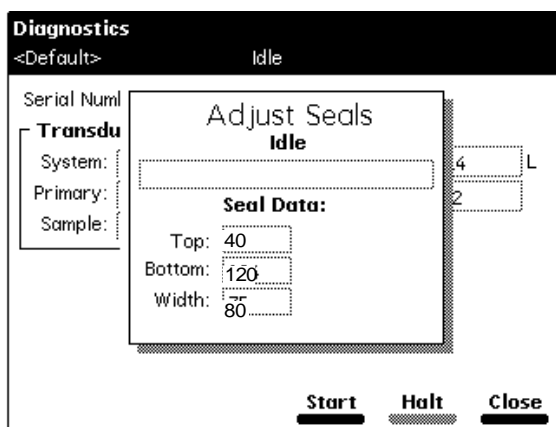

Figure 8-7 Adjust Seals Screen
1. Press the **Adjust Seals** screen key in the Diagnostics screen. The Adjust Seals dialog box appears (Figure 8-7).